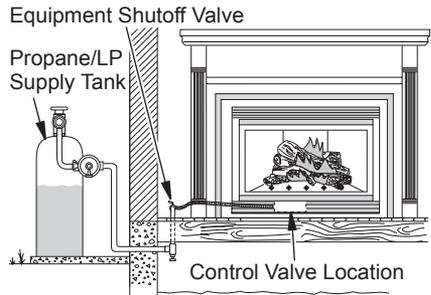

Figure 24 - Checking Gas Joints (Propane/LP Gas Only)
3. Check all joints from gas meter to equipment shutoff valve for natural gas or propane/LP supply to equipment shutoff valve for propane/LP (see Figure 24 and 25). Apply noncorrosive leak detection fluid to all joints. Bubbles forming show a leak.
4. Check all joints from equipment shutoff valve to control valve (Manually-Controlled Models) or to gas control (Remote-Ready Models) (see Figures 24 and 25). Apply noncorrosive leak detection fluid to all joints. Bubbles forming show a leak.